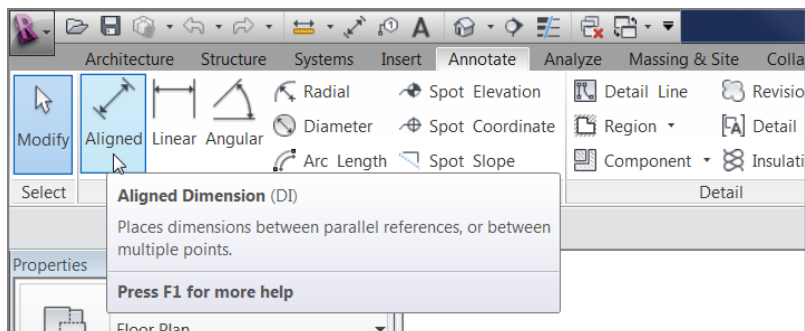

FIGURE 5.26: Changing the options for the dimension
5. On the Annotate tab, click the Aligned button (see Figure 5.26).